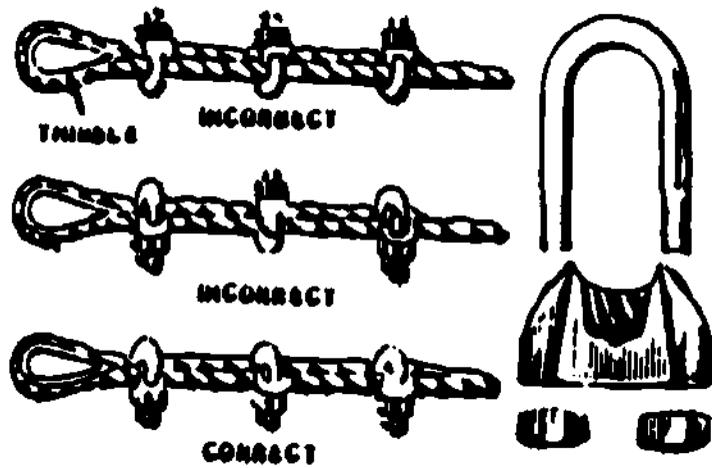

Fig 2-31. Wire-rope clips.
b. Wire-rope clips. A common method of making up tow cables, slings, or eyes in the ends of wire rope is by the use of wire-rope clips. Figure 2-31 illustrates the correct method of installing the clips. The number of clips to be installed is equal to 3 times the diameter of the rope, plus 1 (No. clips = $3d + 1$). When the calculations result in a fraction, round off to the next largest whole number. The clips should be spaced about six rope diameters apart for best service. After all clips are initially placed on the wire, tighten the clip farthest from the thimble with a wrench. Place the rope under tension and tighten the remaining clips in order, working towards the thimble.